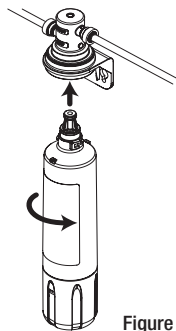

Figure 4
- Referring to the "Using Push-In Fittings" section, insert the blue tubing coming from the 1/4" Feed Water Adapter into the INLET fitting as shown in Figure 4.
- After installing the faucet as detailed below, insert blue tubing to faucet into OUTLET fittings, as shown in Figure 4.
- Align tabs of filter cartridge with head assembly and insert filter cartridge into head assembly. Turn filter cartridge counter clockwise until it stops (about 1/4 turn). The filter is now installed. (See Figure 4).
- Turn water supply back on from the shutoff valve on cold water line. This will pressurize the filter system and begin sending filtered water to the faucet. Look for leaks. If leaks occur, see **Troubleshooting Guide**. Flush the filter for four (4) gallons (approx. 5 minutes) to remove any trapped air.